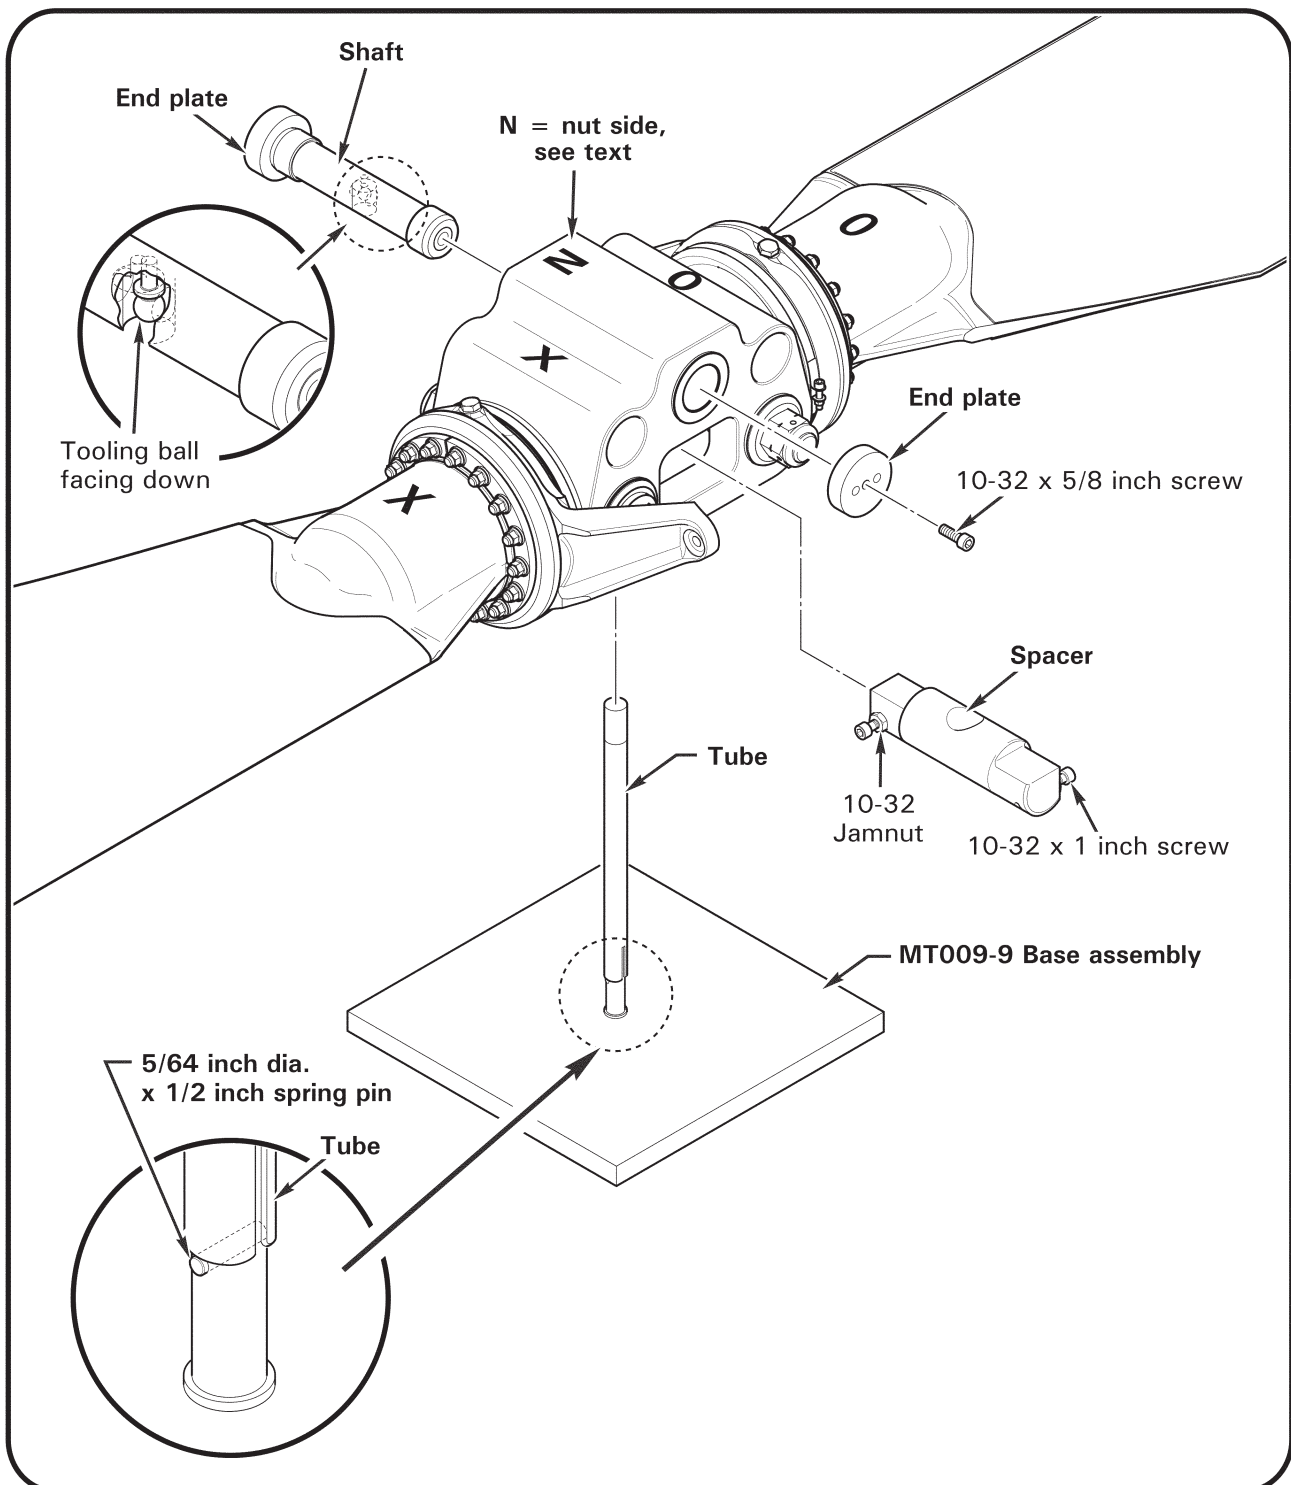

FIGURE 62-8A MT524-2 MAIN ROTOR STATIC BALANCE COMPONENTS ASSEMBLY INSTALLATION
3. Refer to Figure 62-8A. Install shaft in hub teeter-hinge bearings approximately centered, tooling ball facing down. Install screws securing (2) end plates on shaft finger tight.